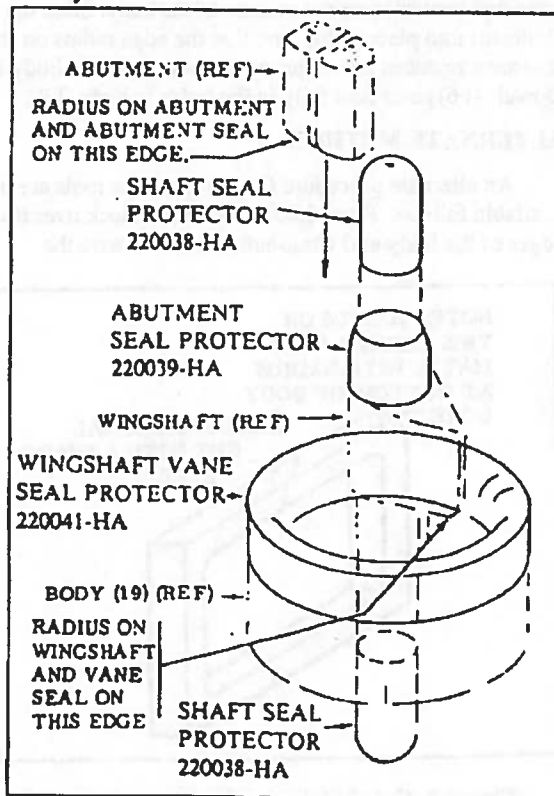
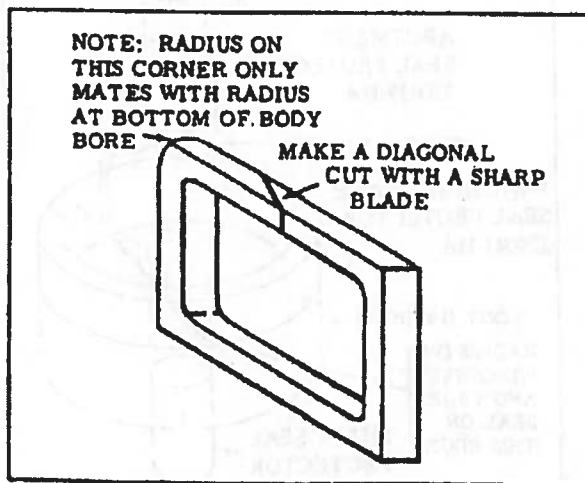

Figure 2. Special Assembly Tools Used to Protect Seals
Figure 3. Cut abutment seal to Permit installation on abutment.
The following special tools are recommended for use during reassembly of a HA Series Actuator. Alternate procedures, for use when the tools are not available, are provided herein but are not recommended. See figure 2 also.
d Place shaft seal protector (see figure 2) in body (19) and wingshaft vane seal protector (see figure 2) on the outside of body (19). Slide the wingshaft fully into the body being sure the edge radius on the wingshaft matches the radius on the bottom of the bore in the body. Remove the shaft seal protector.
e If removed, install dowels (I 6) in abutment (I 5). Stretch O-ring (I 8) around the abutment and seat in the seal groove. Make a centrally located diagonal cut through the side of abutment seal (I 7) that contacts the body (see figure 3). Use a razor blade to make the cut. Place the abutment seal (17) in position on abutment (15). The diagonal cut must be on the side of the abutment next to the body, and the edge radius on the abutment seal and abutments must coincide. Apply a liberal coating of lubricant to the abutment seal. Place abutment vane seal protector (see figure 2) on the wingshaft and wingshaft vane seal protector on the outside of the body. Slide the abutment into place being sure that the edge radius on the abutment matches the radius on the bottom of the body bore. Dowels (I 6) must seat fully in the holes in body (I 9).
h Place hub seal spring (7), hub seal ring (6), and hub seal (5) in end (3) being sure that hub seal (5) fits snugly and that it is free to move axially under the pressure of hub seal spring (7). Apply a heavy coating of lubricant around hub seal (5). The lubricant must keep the hub seal correctly positioned when end (3) is turned over to install it on body (19). Place shaft seal protector (see figure 2) on the end of wingshaft (12). Position end (3) over body (19) and lift (12) and press it onto the body being sure the wings a capscrew and dowel pin holes are aligned. Remove the shaft seal protector from the wingshaft. If the shaft seal protector is not available, use caution to avoid tearing or distorting shaft seal (8) by the wingshaft.